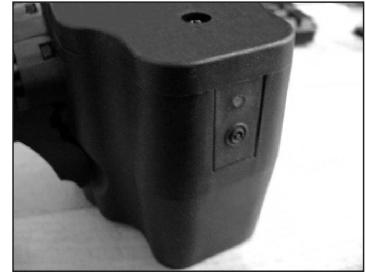

Fig. 3.7
- Locate the power button on the rear of the Rip-Clip. Tap the power button once to turn the Rip-Clip on (Fig. 3.7). The motor will spin for a second and the loader is now ready to use.